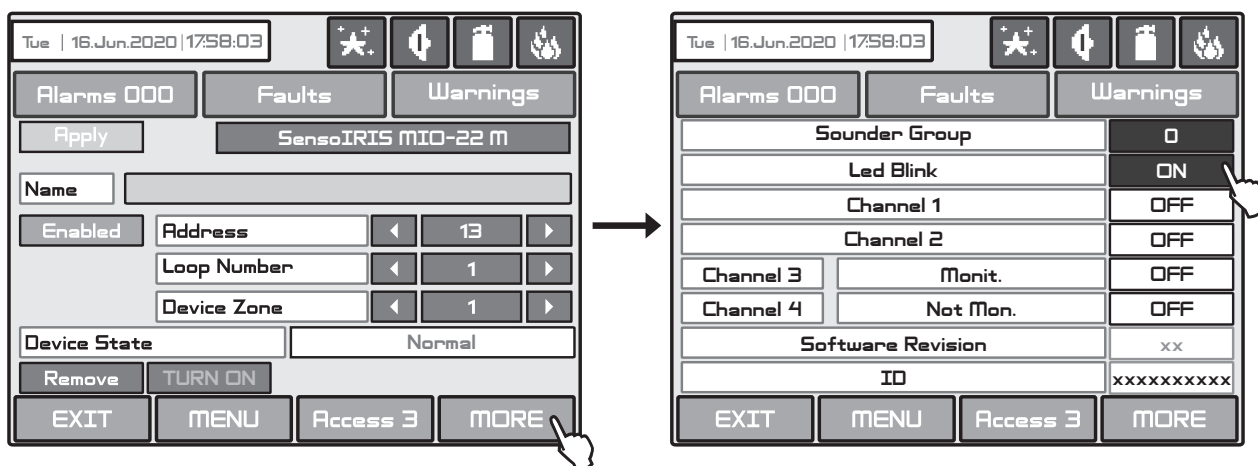

Fig. Screen 10(n) - SensolRIS MIO-22M module.
On Fig. Screen 10(n) is shown the SensolRIS MIO-22M (module with 2 inputs and 2 monitored outputs) settings screen. The panel recognizes the Input 1 as Channel 1, Input 2 as Channel 2, Output 1 as Channel 3 and Output 2 as Channel 4. Every of the outputs can be set to operate as monitored or non-monitored type, as the setting is via jumpers on the module's PCB. The active state of the monitored outputs can be programmed for operation in Normal or Inverted mode with configuration in menu OUTPUTS (SYSTEM - PROGRAMMING - OUTPUTS) - see the description of the menu in item 3.6. When an output is set to operate as Monitored, it must be powered on from an external power supply unit (18-30VDC).